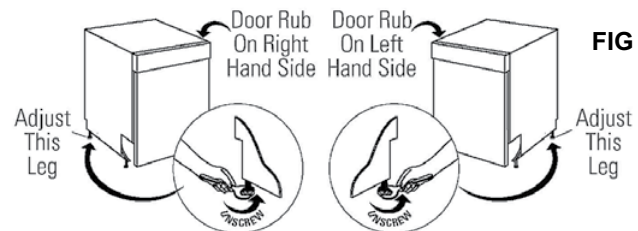

FIG 16
- 3 If the door rubs on the right side of the cabinet, extend the left rear leg by unscrewing it 1/4 of a turn. See **Figure 16**.
- 4 If the door rubs on the left side of the cabinet, extend the right rear leg by unscrewing it 1/4 turn. See **Figure 16**.